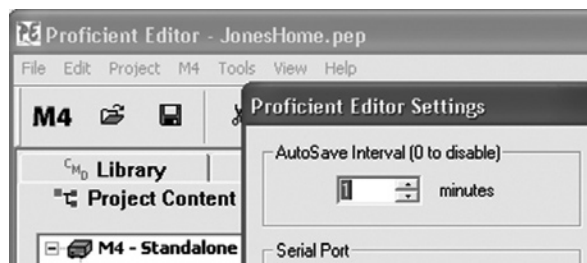

Figure 54 Adjusting AutoSave Interval
2. Adjust **AutoSave Interval** as desired (from 1 to 10 minutes). Refer to **Figure 54**.